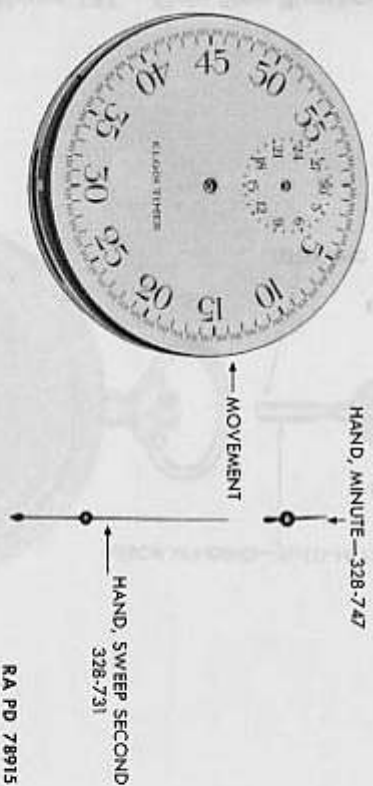

Figure 189 — Elgin Stop Watch — Hands Removed
- b. Remove Hands (fig. 189). Cut a V-slot in a piece of paper and slide it under the hands to protect the dial. Remove hands with hand remover (fig. 50).
- k. **Replace Hands.** Replace minute register hand with its point at zero. Replace sweep seconds hand with its point at zero (fig. 189).